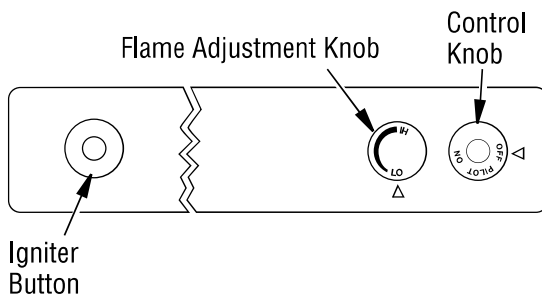

Figure 39 - Control Knob and Igniter Button Location (Shown as Supplied, No Control Options)
- Press in and turn control knob clockwise  to the OFF position (see **Figure 39**).
- Wait five (5) minutes to clear out any gas. Then smell for gas, including near the floor. If you smell gas, STOP! Follow "B" in the safety information, **Page 24**. If you don't smell gas, go to the next step.
- Press in and turn control knob counterclockwise  to the PILOT position. Press in control knob for five (5) seconds (see **Figure 39**).